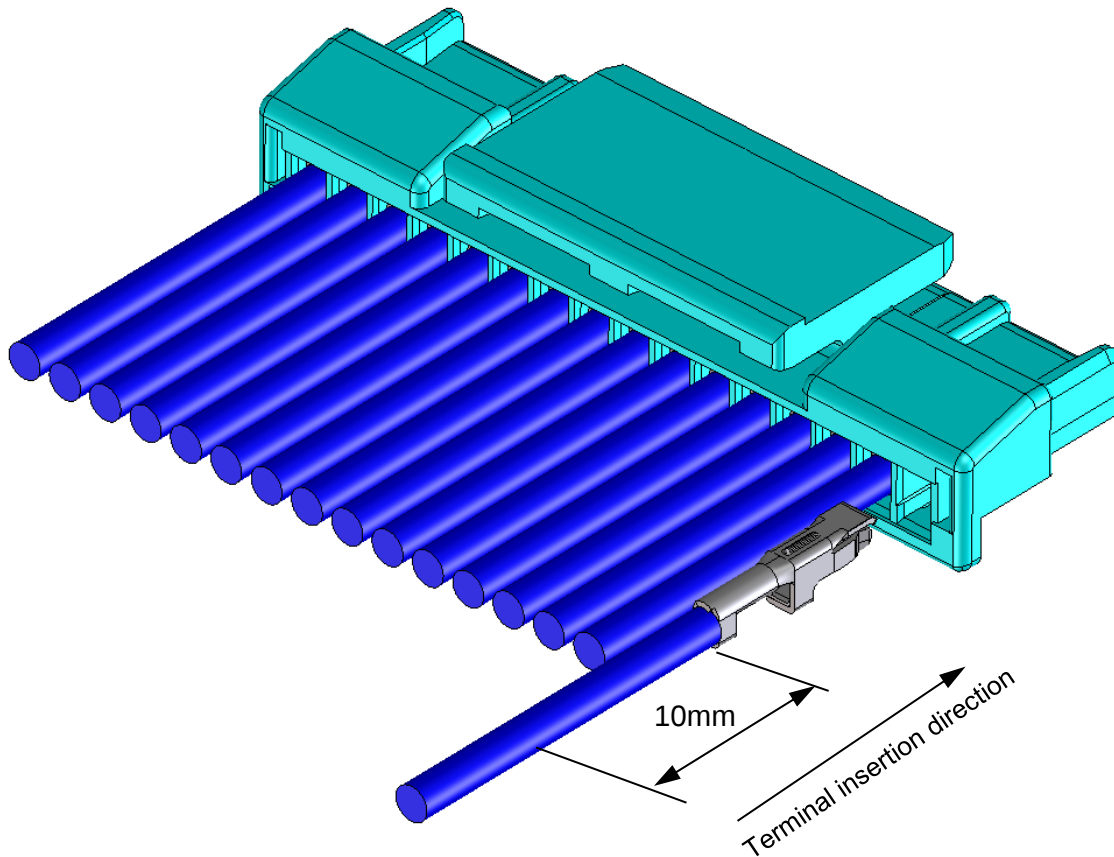

Fig.6-1
- ③ Hold the terminal lance part toward center of receptacle housing and insert terminal slowly and straightly till the tip of terminal touches housing (with force of 4.9N MAX). (**Fig.6-1**)